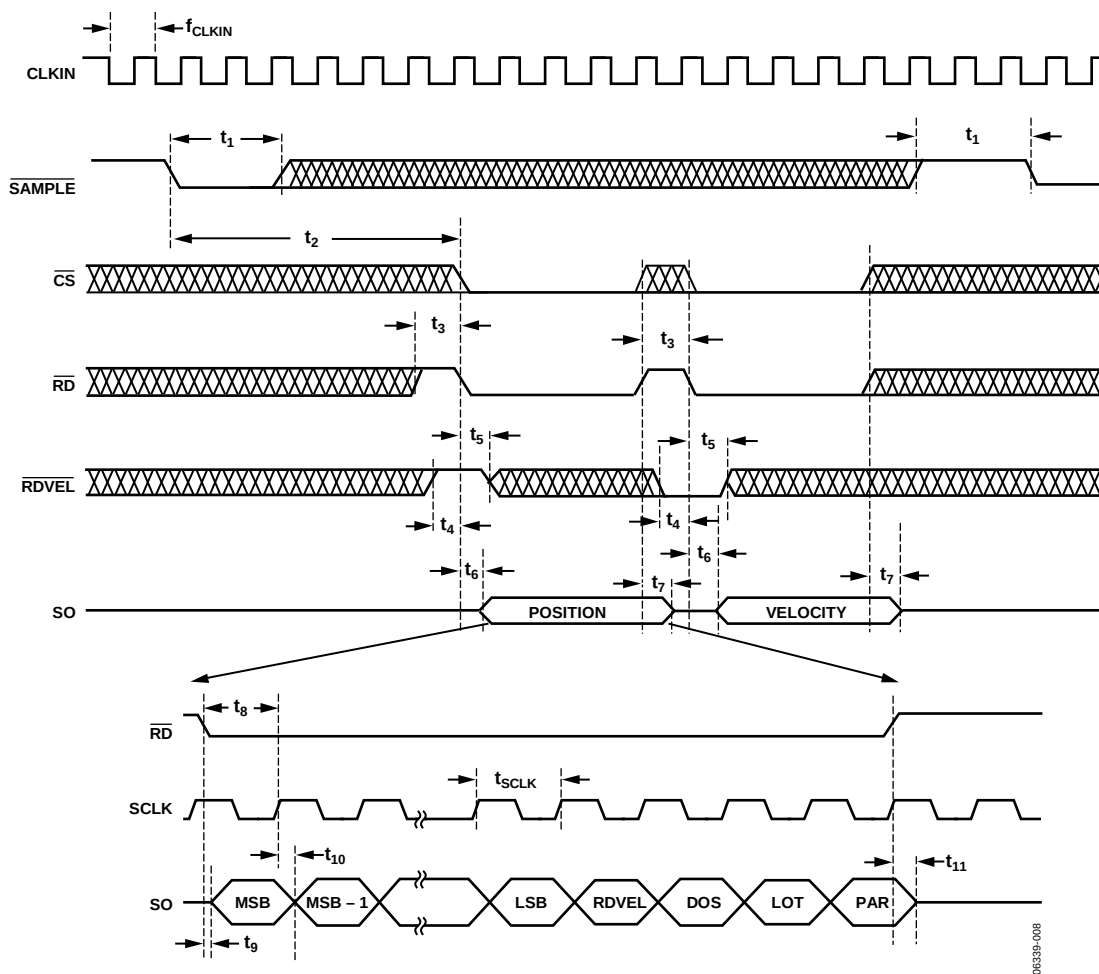

Figure 8. Serial Port Read Timing
The angular position and velocity are available on the AD2S1205 in two 12-bit registers. These registers can be accessed via a 3-wire serial interface (SO, $\overline{RD}$, and SCLK) that operates at clock rates of up to 25 MHz and is compatible with SPI and DSP interface standards. The serial interface is selected by holding the $\overline{SOE}$ pin low. Data from the position and velocity integrators are first transferred to the position and velocity registers using the SAMPLE pin. The RDVEL pin selects whether data is transferred from the position or velocity register to the output register, and the $\overline{CS}$ pin must be held low to transfer data from the selected register to the output register. Finally, the $\overline{RD}$ input is used to read the data that is clocked out of the output register and is available on the serial output pin (SO). When the serial interface is selected, DB11 is used as the serial output pin (SO), DB10 is used as the serial clock input (SCLK), and Pin DB0 to Pin DB9 are placed into the high impedance state. The timing requirements for the read cycle are described in Figure 8.
The output shift register is 16 bits wide. Data is clocked out of the device as a 16-bit word by the serial clock input (SCLK). The timing diagram for this operation is shown in Figure 8. The 16-bit word consists of 12 bits of angular data (position or velocity, depending on RDVEL input), one RDVEL status bit, and three status bits (a parity bit, a degradation of signal bit, and a loss of tracking bit). Data is clocked out MSB first from the SO pin, beginning with DB15. DB15 through DB4 correspond to the angular information. The angular position data format is unsigned binary, with all 0s corresponding to 0° and all 1s corresponding to 360° – 1 LSB. The angular velocity data format is twos complement, with the MSB representing the rotation direction. DB3 is the RDVEL status bit, with a 1 indicating position and a 0 indicating velocity. DB2 is DOS, the degradation of signal flag (refer to the Fault Detection Circuit section). Bit 1 is LOT, the loss of tracking flag (refer to the Fault Detection Circuit section). Bit 0 is PAR, the parity bit. The position and velocity data are in odd parity format, and the data readback always contains an odd number of logic highs (1s).